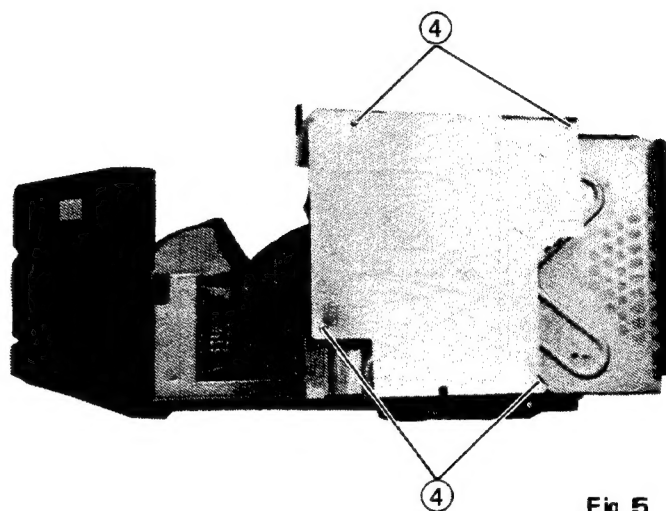

Fig. 5
4. Take the CD chassis base out with mechanism Ass'y and CD P.C. board.(Fig.5)
3. Remove 4 screws ④.(Fig.5)
(6) Removing the Front panel